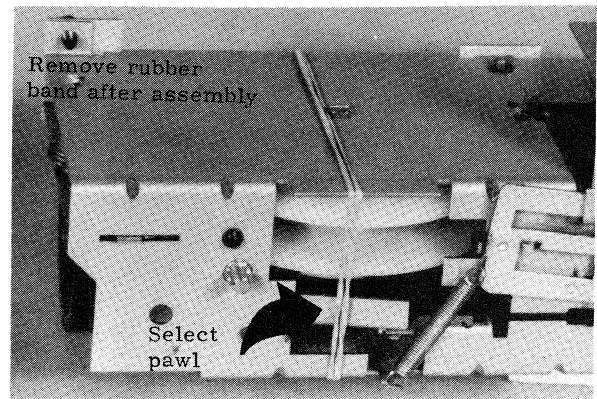

Figure 3-4. Holding select pawl for reassembly.
4. Mechanism Reassembly (Figure 3-4.)